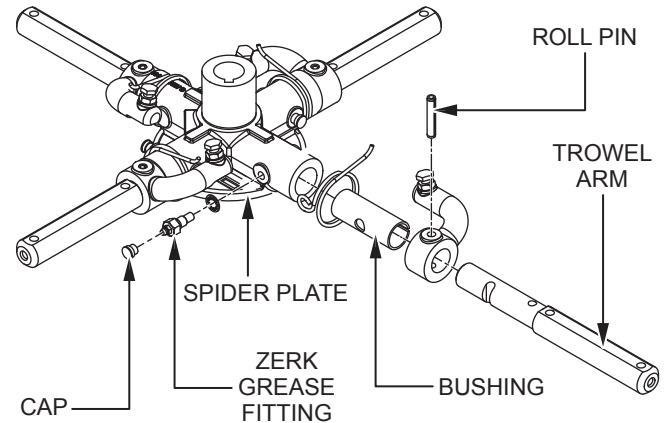

**Figure 69. Blade Removal**
2. Remove the bolts and lock washers from each of the trowel arms, then remove the blades as shown in Figure 69.